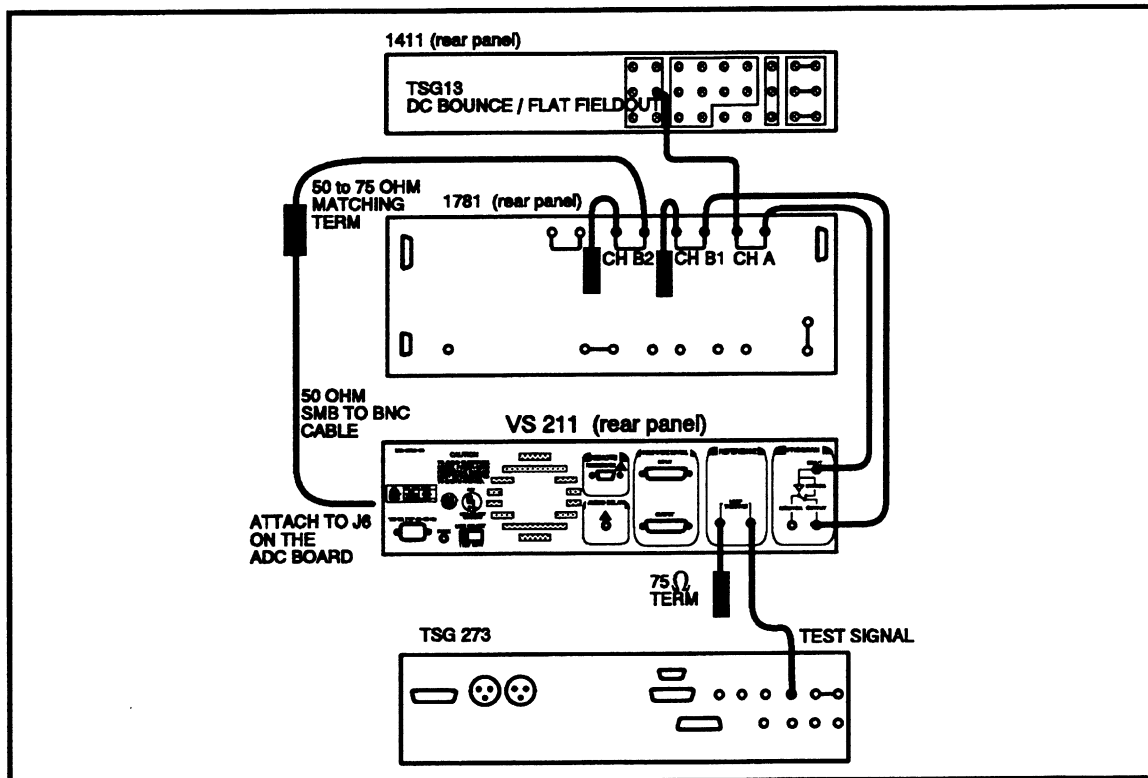

Fig. 4-5. Setup to adjust the Clamp Loop Response.
- a. Set up the equipment as shown in Fig. 4-5.